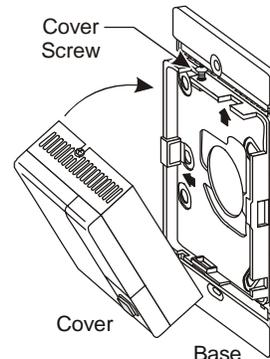

Figure 3: Attaching the Cover to the Base
5. Place the bottom edge of the cover against the bottom lip of the base, and rotate it up onto the base as shown in Figure 3.
9. Place the bottom edge of the cover against the bottom lip of the base, and rotate it up onto the base as shown in Figure 3.